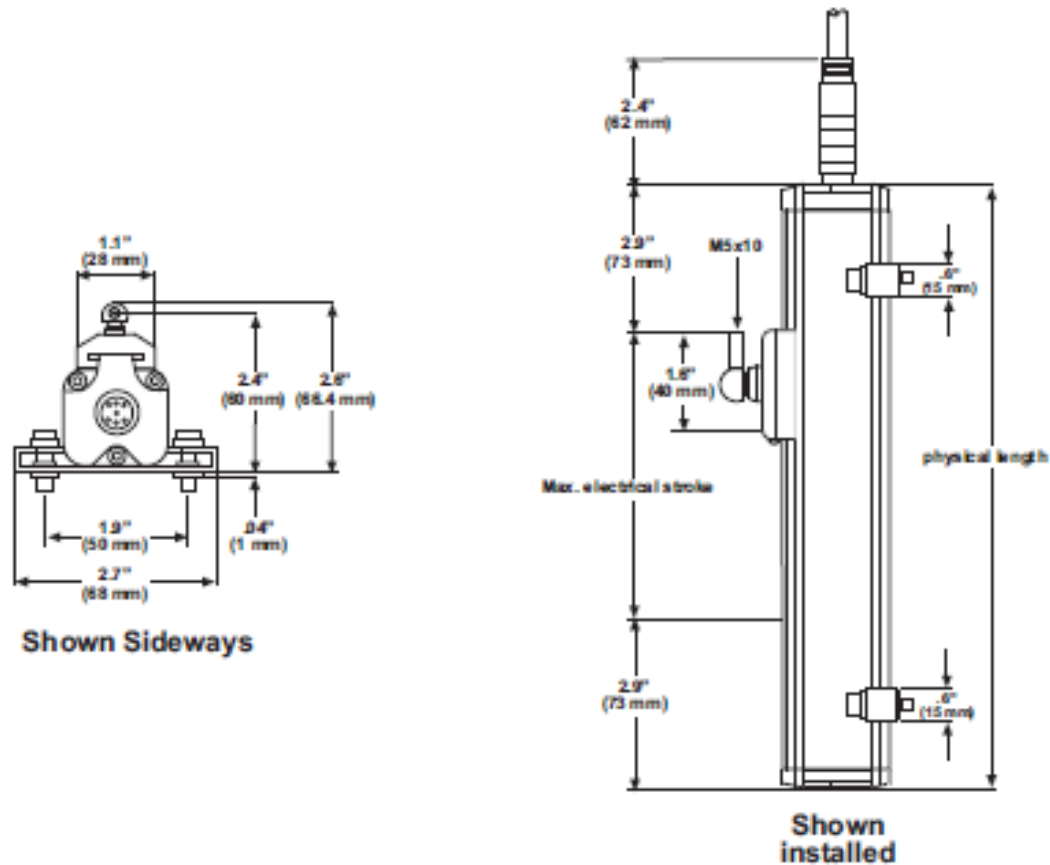

Figure A- 1. Balluff Linear Transducer Dimensions
Once you have thought out your design and gathered the parts, mount the magnetostrictive linear transducer by performing the following steps, referring to Figure 2-1, page 30 for suggested mounting location and Figure A- 1 for mounting dimensions:
7. Connect the magnet to the rod. Make sure the magnet is positioned within the transducer's electrical range—a line on the face of the transducer indicates the beginning of its electrical range—and that the arrow on the magnet is facing the electrical connection when the press moves up and down (see Figure A- 1). If the magnet is not positioned within the transducer's electrical range, it will not work properly.